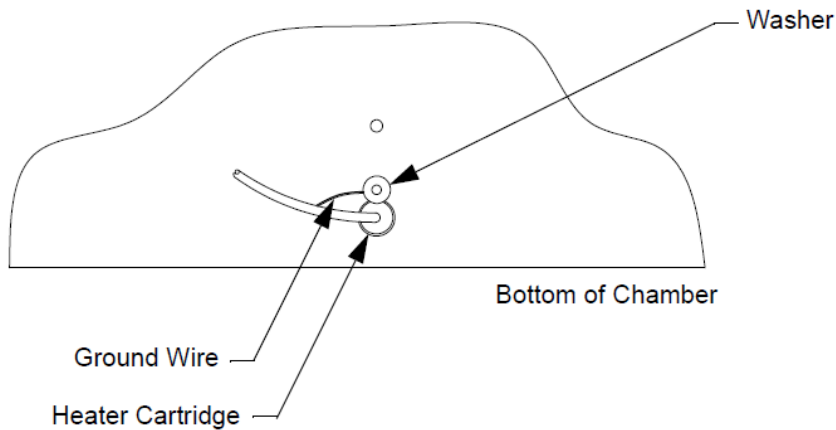

Figure 9-4: Heater Cartridge Replacement
2.	Remove the washer, shown in Figure 9-4 , securing the ground wire and the heater cartridge to the bottom of the chamber.